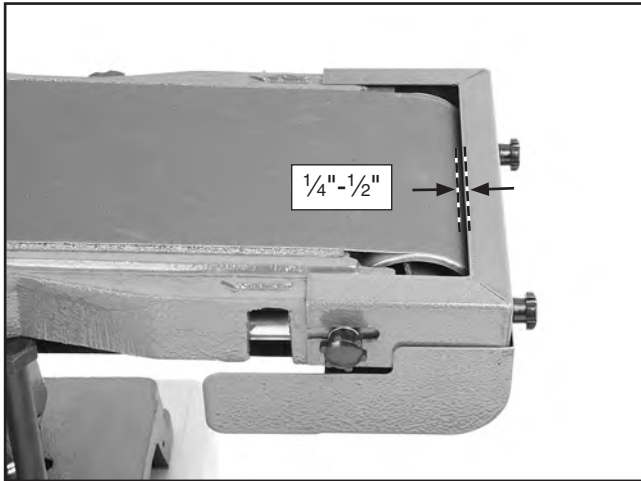

Figure 40. Correct distance between belt and idler guard. Measuring distance (inset).
23. Adjust the inside edge of the idler roller guard $\frac{1}{4}$ -" $\frac{1}{2}$ " away from the sanding belt (see **Figure 40**).